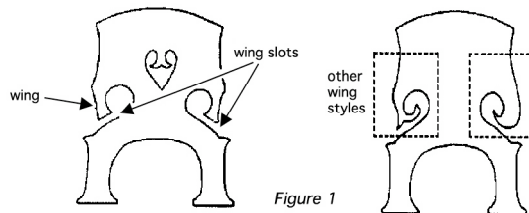

Figure 1
**WING SLOT TOO NARROW:** Use medium grit sandpaper, an ordinary 10" flat file, an emery board or other abrasive device to remove small amounts of wood from the wing. (See figure 1.)